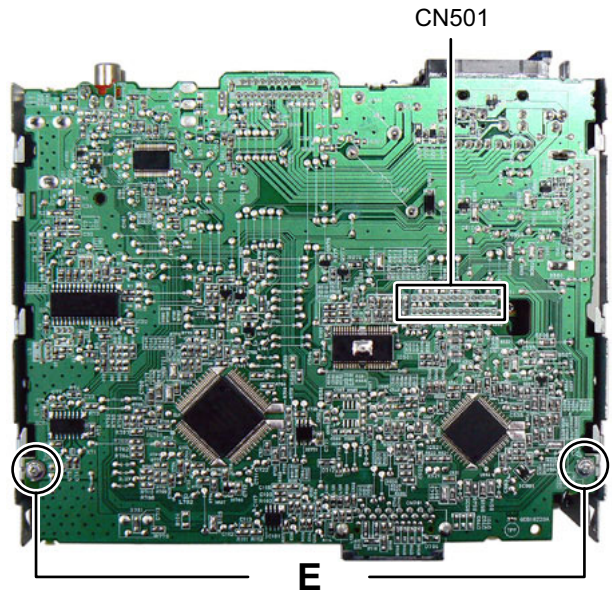

Fig.5
3.1.4 Removing the MAIN BOARD assembly (See Fig.5)